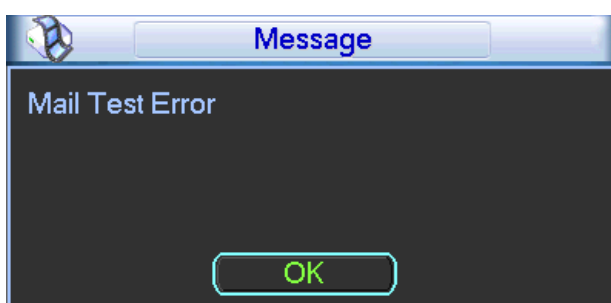

Figure 4-48
- Interval: Please check the above box to enable this function and then set the corresponding interval. System can send out the email regularly as you set here. Click the Test button, you can see the corresponding dialogue box to see the email connection is OK or not. See Figure 4-48.